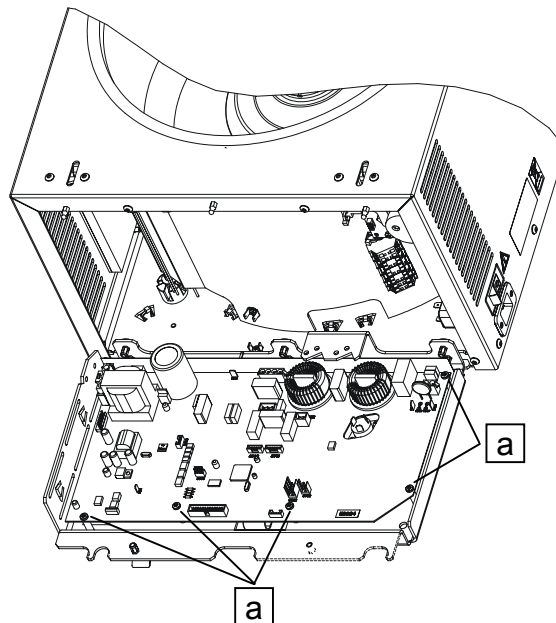

Fig. 16
- Unscrew the 5 fastening screws (Fig. 16, a) on the electronics (A1).